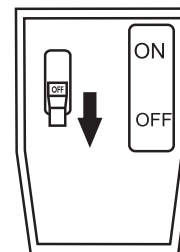

Figure 17. Power OFF/ON Switch (OFF Position)
1. Place the power ON/OFF switch (Figure 17) in the **OFF** position.